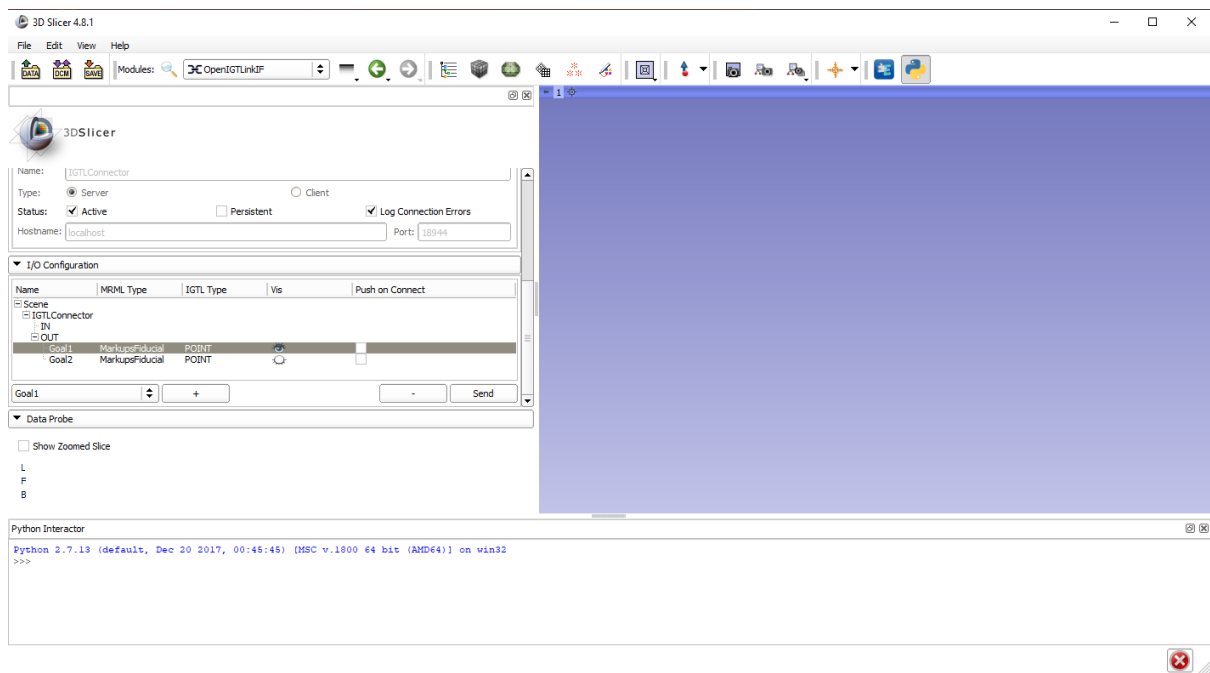

Figure 6: Slicer Scene
5. Click send (as seen here Figure 6: Slicer Scene)